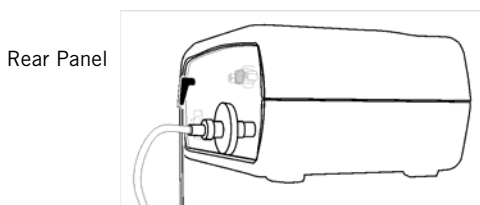

Figure 5: Pressure Monitor Line Connection to Airway Pressure Monitor
10. Finally, connect the airway pressure monitor line to the rear of the Criterion 40 Airway Pressure Monitor (Figure 5). Hang the line over the accessory arm to ensure that it does not become contaminated by falling on the floor or coming into contact with contaminated equipment.